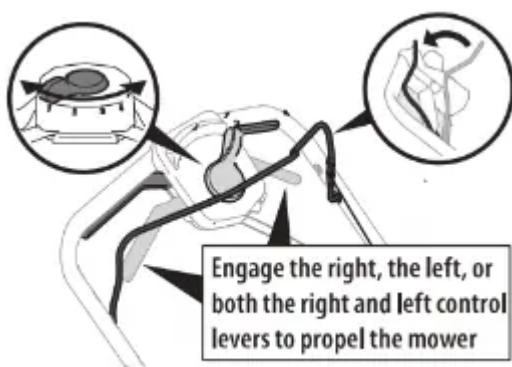

Figure 30
1. Once the engine is running and while continuing to hold the blade control down, squeeze either or both drive controls against the upper handle to propel mower (Figure 30).